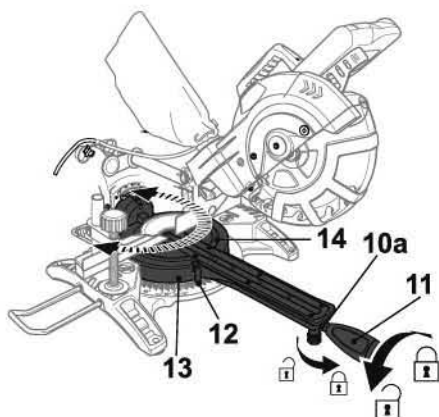

Fig. 48
- Hold the handle (1) firmly and press the on/off switch (20) (Fig. 48, Step 1). Allow the saw blade to reach maximum speed.
- Press the blade guard release lever (2) and slowly lower the blade into and through the workpiece (Fig. 48, Step 2).